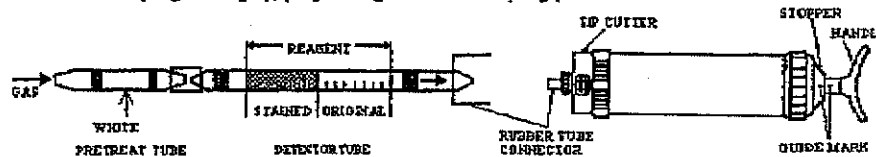

Fig.1
- ② Insert the detector tube into aspirating pump securely as shown in Fig.1 (Arrow mark shall point to the pump.)
- ③ Align the guide marks on the shaft and stopper of the aspirating pump.
- ④ Pull the pump handle at full stroke until it locks and wait for 1 minute or until the completion of sampling is confirmed with the flow indicator of the pump (See descriptions about the flow indicator in the instructions of the pump).
- ① Break both ends of detector tube and pretreat tube, and connect each end of the detector tube and pretreat tube with rubber tube connector as shown in Fig.1.